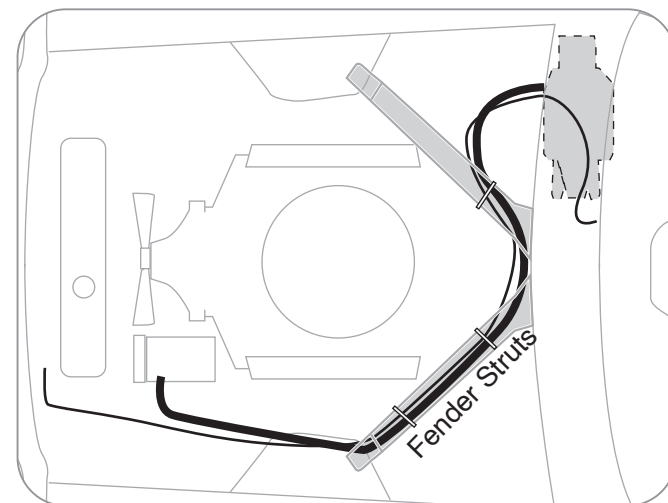

FIGURE 41
2) Attach the #6 liquid hose (5/16") to the drier and route thru the remaining hole previously drilled into the core support and along the underside of the fender struts, around the engine, and to the connection at the firewall on the evaporator unit (see figure 41). Using supplied zip-ties you'll attach this hose, the suction hose and the lead from the high pressure switch to the strut braces, securing all three at once. Tighten fittings using o-rings and mineral oil supplied in kit.